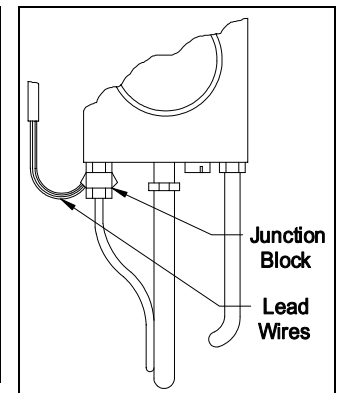

Figure 5
2. Thread the junction block into the thermocouple port and thermocouple into the bottom of the junction block. Connect lead wire from the junction block to the jacketed lead wires or wire enclosed in an accepted wiring enclosure. (See Figure 5)